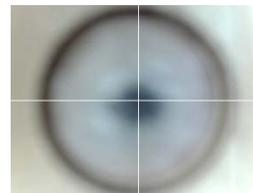

Figure 5-4: Tactile Switch Go To Image
- Click **Go To**. The Camera Window crosshairs should be centered on the center of the Tactile Switch, although the switch will not be in focus, as shown in Figure 5-4.